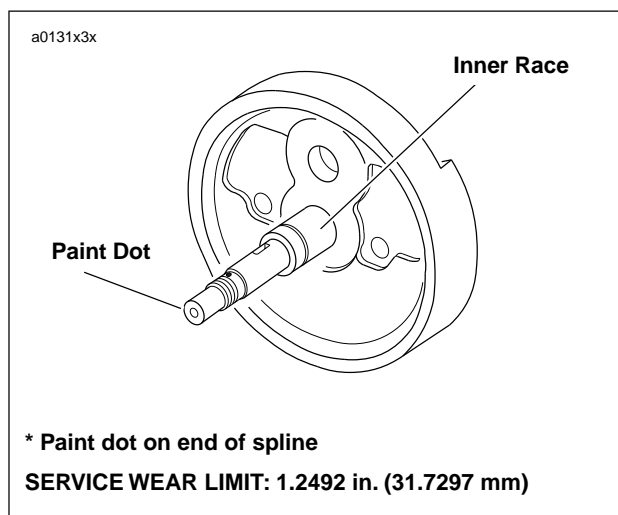

Figure 3-143. Factory Inner Race Sizes
2. See Figure 3-143. Installed inner races are identified at the factory as shown. See Table 3-28.